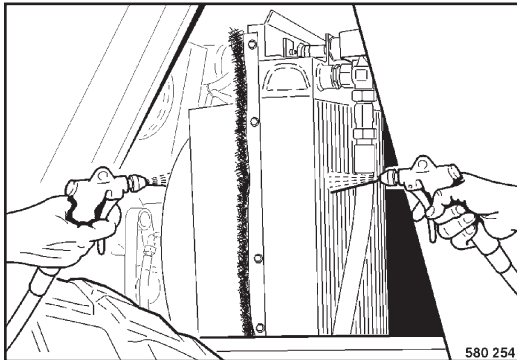

Fig. 110
- Blow the cooler (Fig. 110) out with compressed air.